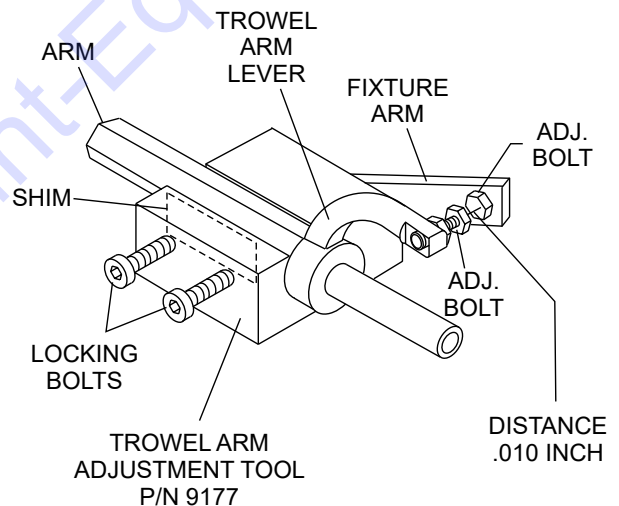

Figure 52. Trowel Arm Adjustment Tool Components
3. Unscrew the locking bolts on the adjustment tool and place the trowel arm into the fixture channel as shown in Figure 52. A thin shim may be required to cover the blade holes on the trowel arm. Make sure to align the trowel adjustment bolt with the fixture adjustment bolt.